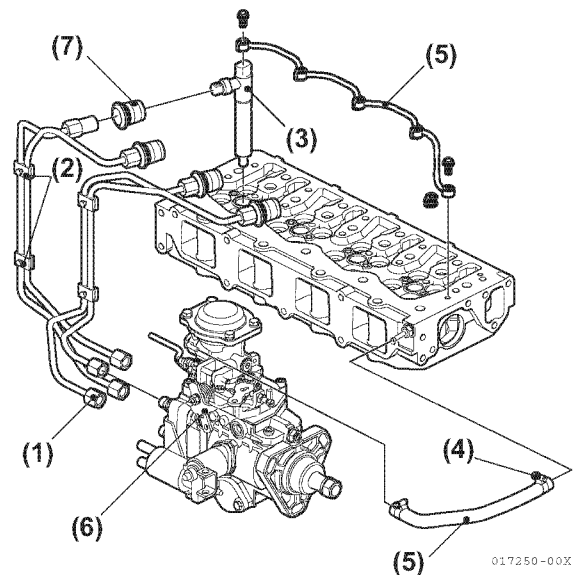

Figure 6-25
4. Disconnect fuel supply line (Figure 6-25, (6)).
5. Disconnect fuel return line (Figure 6-25, (4)).
6. Remove fuel injection line (Figure 6-25, (1)).